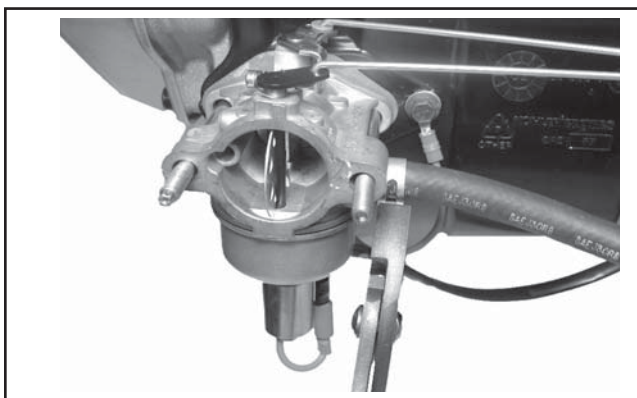

Figure 10-63. Connecting Fuel Line to Carburetor.
8. Connect the fuel line to the carburetor and secure with a hose clamp. See Figure 10-63.